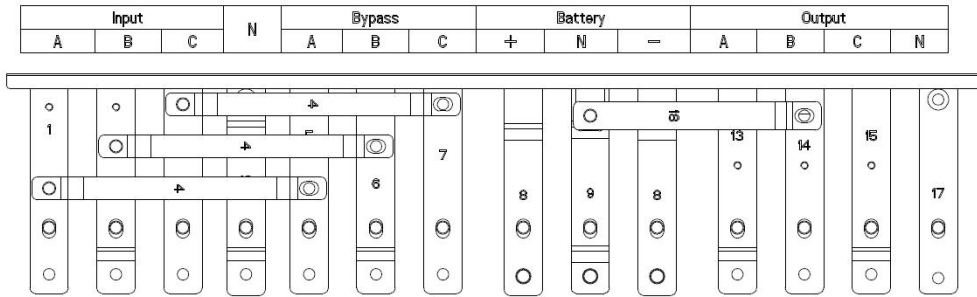
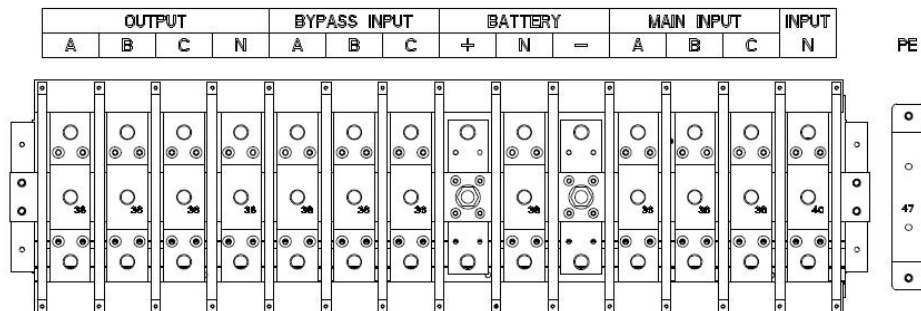

Figure 2-17 2-slot cabinet UPS connection terminals
Figure 2-21 10-slot cabinet UPS connection terminals
- 2) Open the door of the cabinet (the front door for 2-slot and 4-slot cabinet UPS; the back door for 6-slot, 8-slot and 10-slot cabinet UPS), remove the metal or plastic cover. The input and output terminal, battery terminal and protective earth terminal are shown in Figure 2-17 to Figure 2-21.